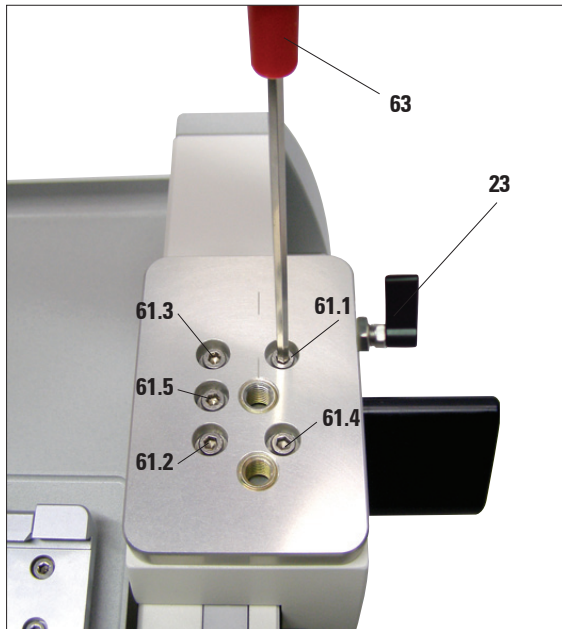

Fig. 10
- Insert the five countersunk screws (61.1–61.5) into the bores and tighten them crosswise (in the sequence shown in Fig. 10) using an Allen key T25 (63).